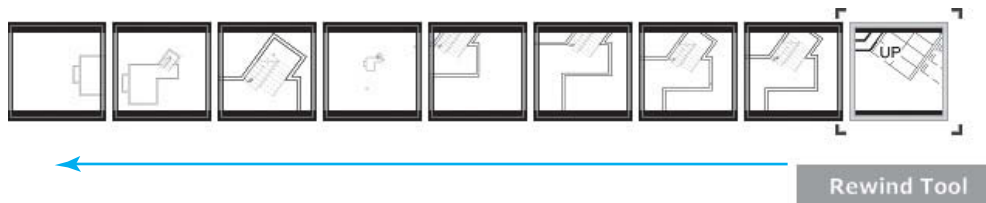

Figure 2-28
4. The **Rewind** option in the **Wheel** allows one to re-track to any previous view (see Figure 2-28).